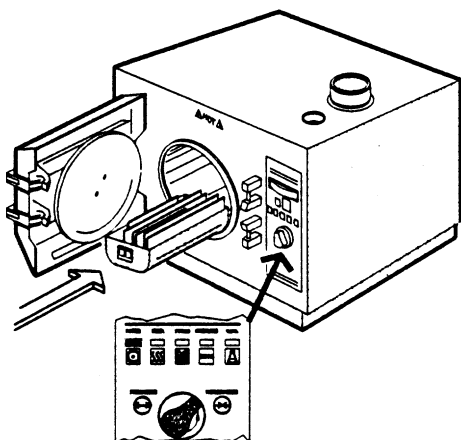

Figure 9: Loading the Chamber
6. Set the trays in the sterilizer chamber (see Figure 9).